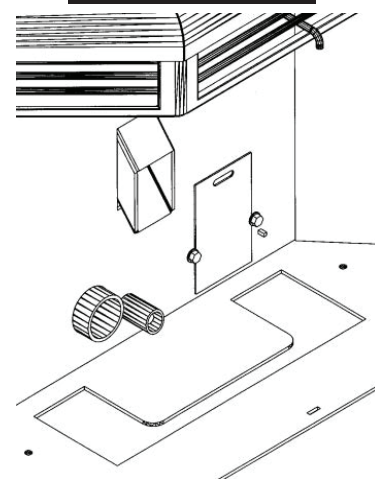

FIGURE 15
- e. Scrape ash in firebox into the under-stove bin through the opening (see Figure 15) or vacuum to remove ashes. **WARNING: Make sure ashes are cool to the touch before using a vacuum. See “VACUUM USE”.**